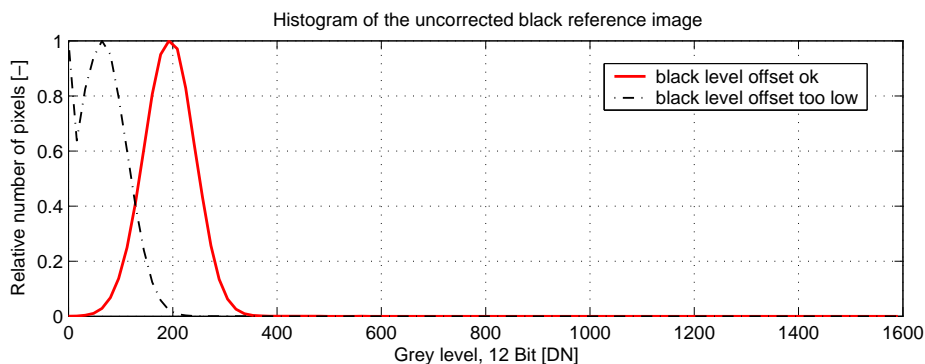

Figure 4.36: Histogram of a proper black reference image for offset correction
- It may be necessary to adjust the black level offset of the camera. In the histogram of the black reference image, ideally there are no grey levels at value 0 DN after adjustment of the black level offset. All pixels that are saturated black (0 DN) will not be properly corrected (see Fig. 4.36). The peak in the histogram should be well below the hot pixel threshold of 1008 DN @ 12 bit.